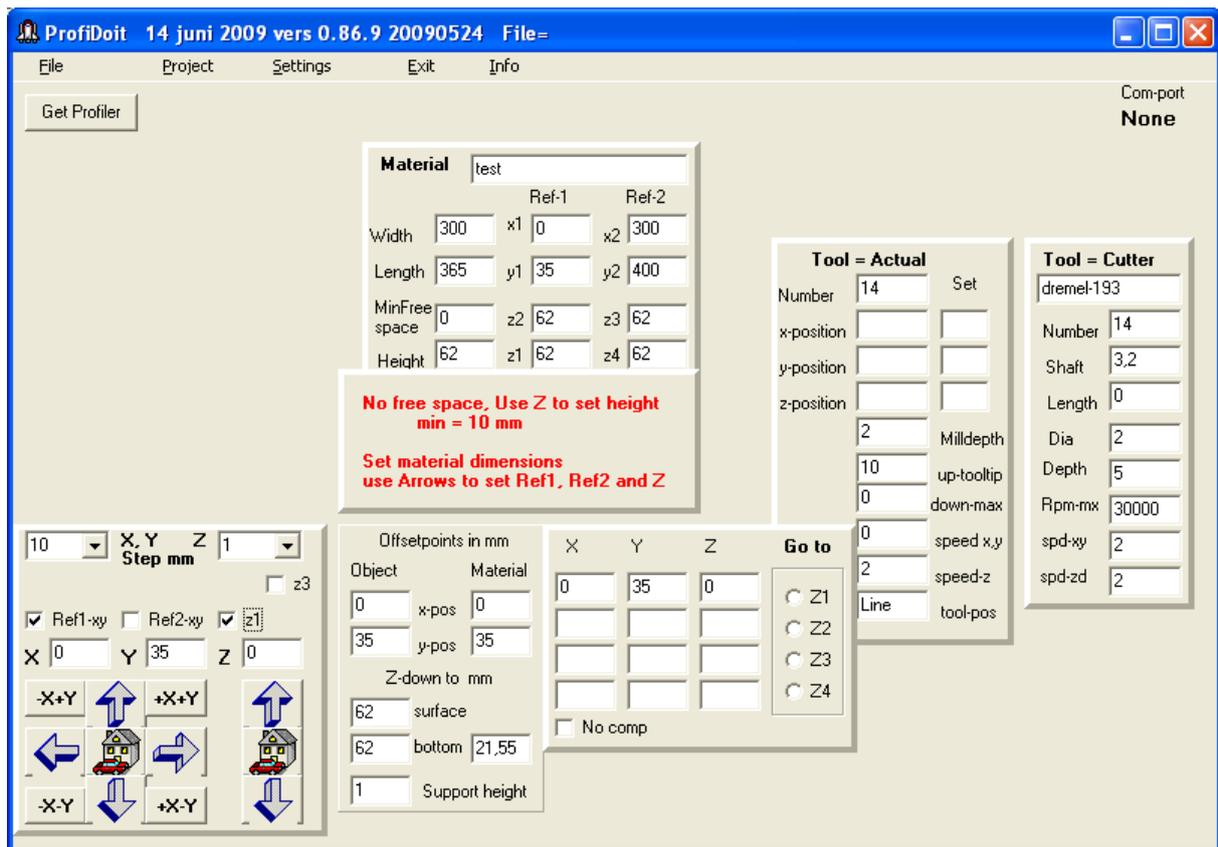

fig 3.1.3 Warning messages. (f3-090614).
- 5. Fig. 3.1.3 Warning messages.